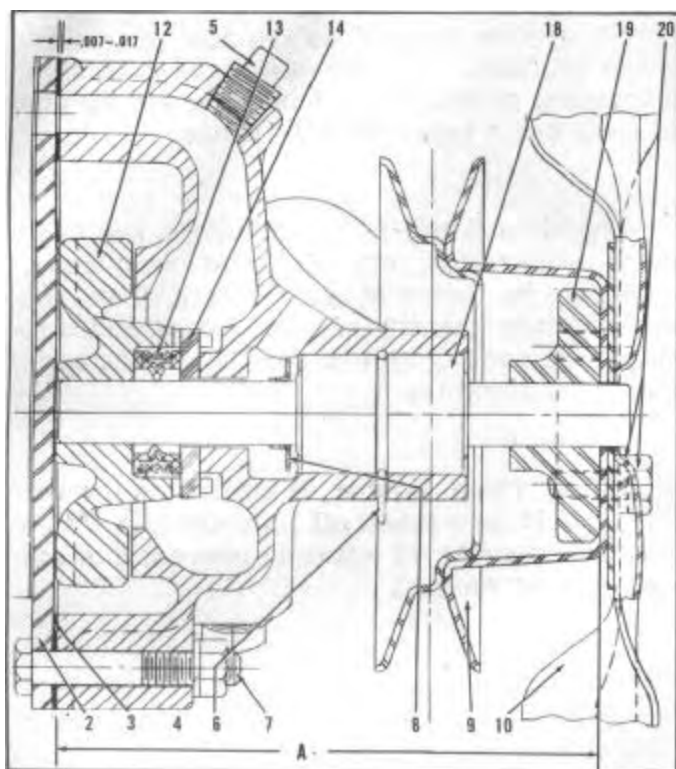

FIGURE 2
2. Lubricate shaft with castor oil and install the fan pulley hub (19). Support the flange of the hub and apply pressure on the impeller end of the shaft. Maintain proper pulley spacing. This dimension should be 5-5/32" from outside edge of hub to cover face of pump body, shown as "A", Figure 2.
NOTE: Impeller must protrude .007 to .017 beyond cover face of pump body, Figure 2.
4. Install the water pump shaft and bearing retainer (6), Figures 2 & 3.